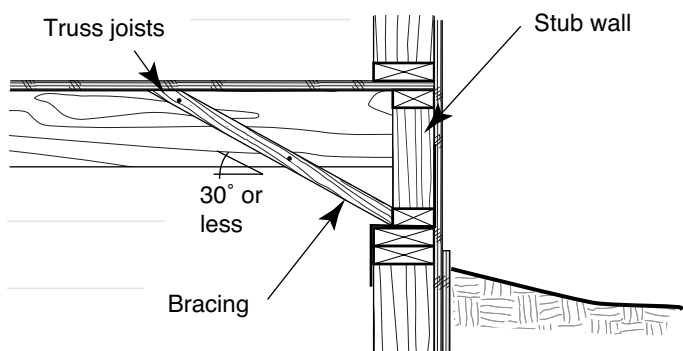

FIGURE 55
- ◆ Alternatively, if a stub wall is installed on the end wall, extend the diagonal bracing to the second truss to prevent uplift of the floor (see Figure 55). The bracing should be kept at an angle of less than 30 degrees to prevent uplift.